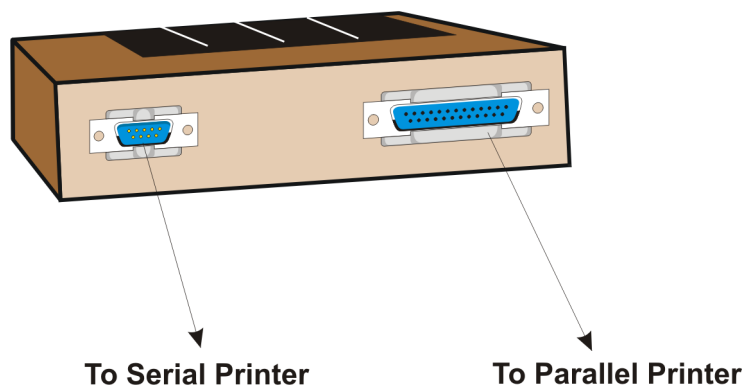

Figure 4-20 Printer Connection
5. Connect a printer to the 5824 as shown in Figure 4-20.